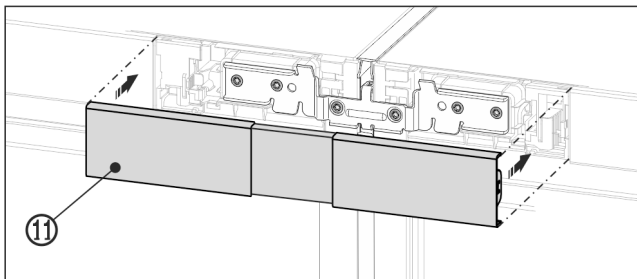

Fig. 25 Example illustration
- ▶ Snap the top cover Fig. 25 (11) onto the still open gap between the two control panel trims. Make sure that the outer sides of the cover form a flush finish with the control panel trims.